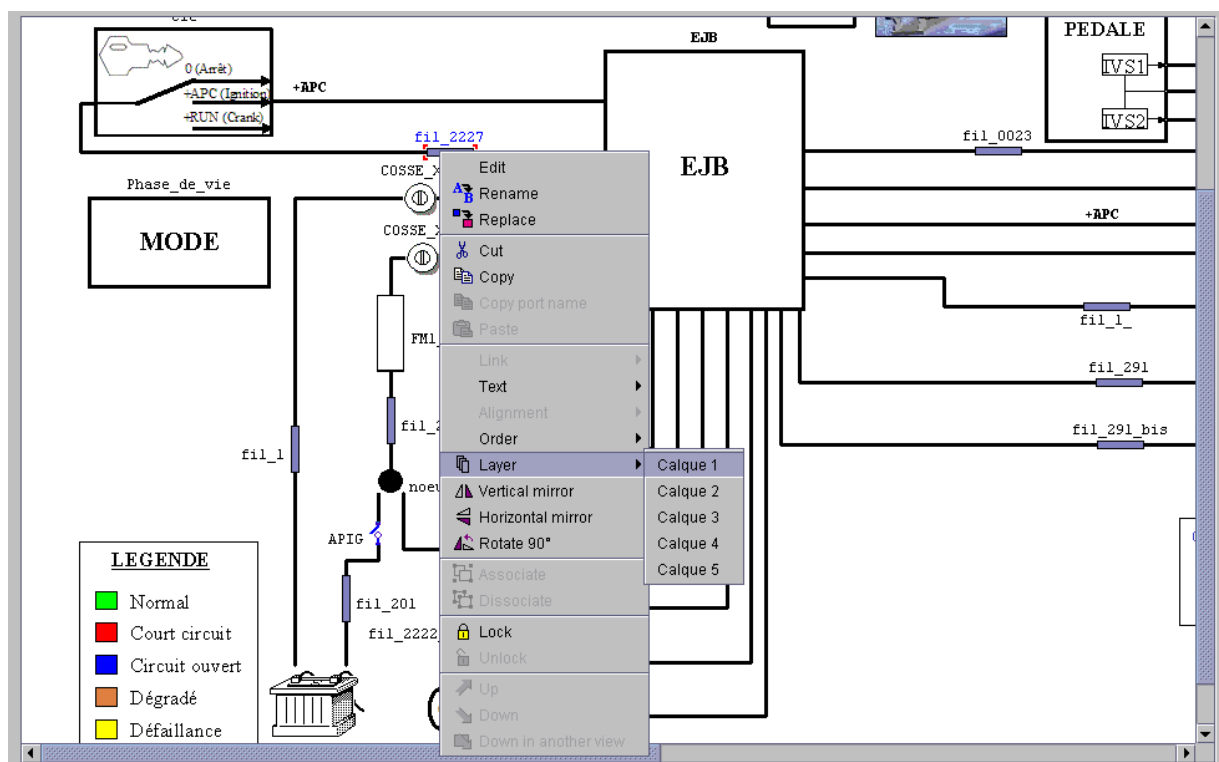

Figure 142 : To put an element on a display layer
- ◆ Select the graphical element (component, equipment, link) (Figure 142),